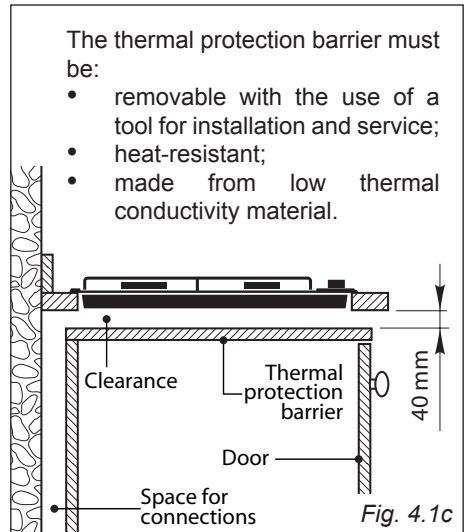

Fig. 4.1c
- If the base of the cooktop is accessible through a cupboard or drawer space after installation, a thermal protection barrier must be installed below the base of the cooktop as indicated in fig. 4.1c.